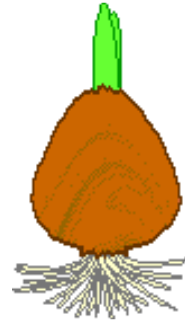

Figure 4.
**BULB** is an underground stem, usually globular, that has fleshy leaves emerging from the top and roots emerging from the bottom. The fleshy leaves store food. Examples include the tulip, narcissus, and onion. *Refer to Figure 4.*